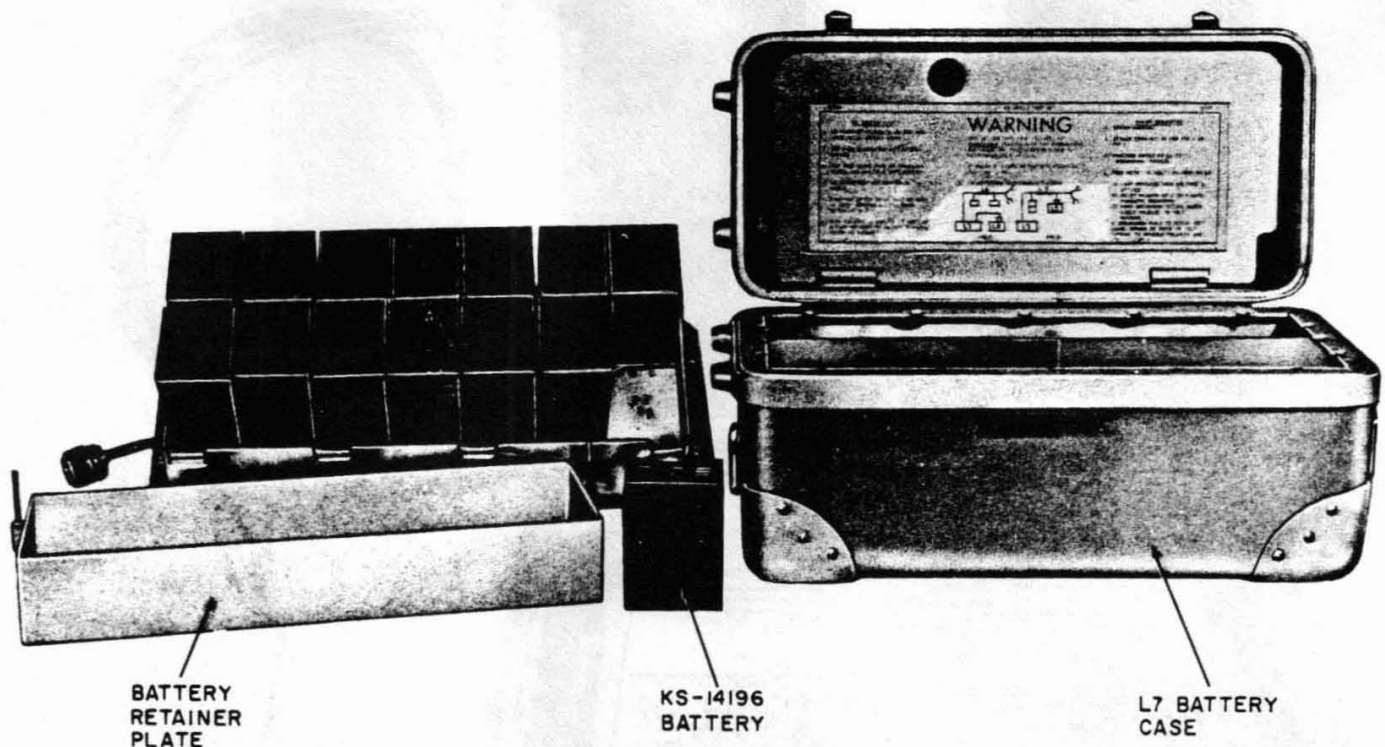

Fig. 18—Battery Replacement In L7 Power Unit
- (a) Replace the KS-14369 battery in the L8 control unit (Fig. 18) and check HI VOLT lamp if the flag indicator stays green, the HI VOLT lamp does not light, or the function relay in the L7 power unit does not click.